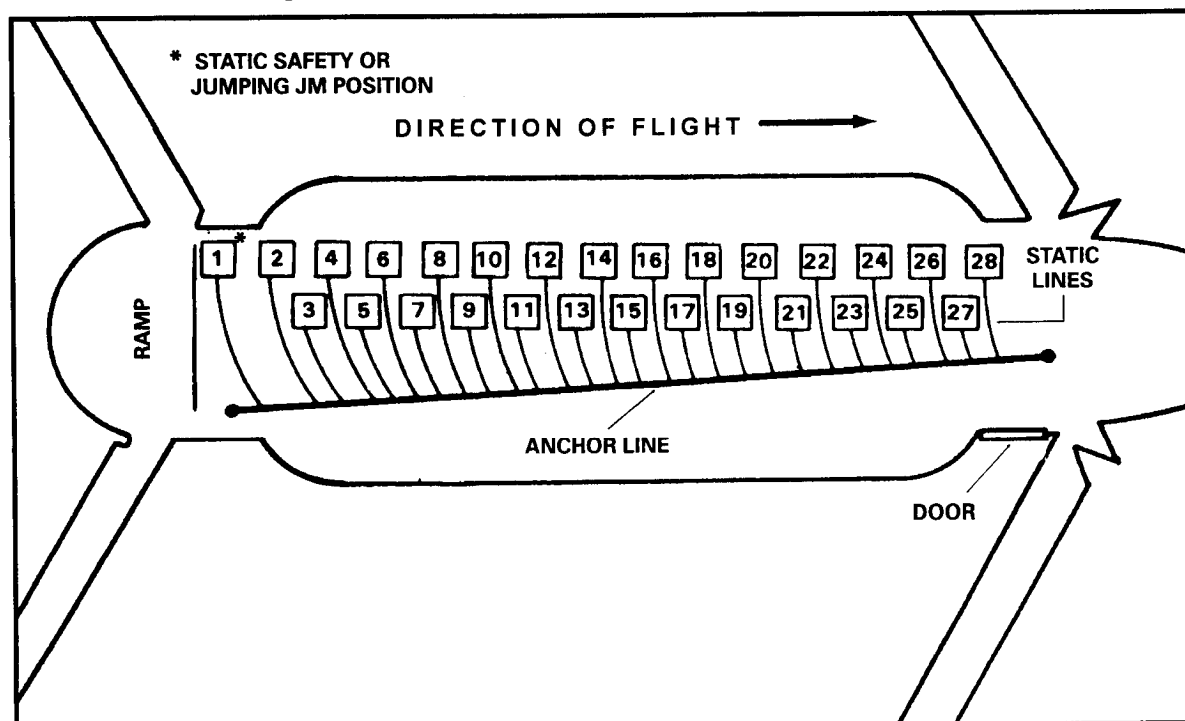

Figure 17-21. CH-47 static line routing.
b. **Jumpmaster.** The JM or safety personnel ensure that parachutists are hooked up consecutively, 1 through 28 (Figure 17-21). If the JM does not jump, he wears a safety harness or back emergency parachute. He checks each parachutist after they hook up and controls the flow of parachutists. When an external load is delivered, the JM ensures the external load is clear and the aircraft has accelerated to a safe airdrop speed before dropping cargo bundles from inside the aircraft or before permitting parachutists to exit.